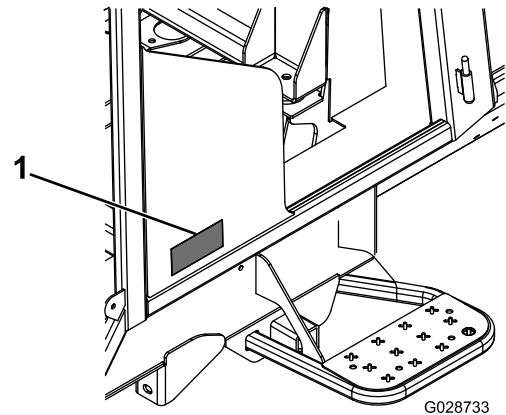

**Figure 38**
3. Apply the remaining 2 strips of red reflective tape according to your model, as shown in Figure 38, Figure 39, or Figure 40.